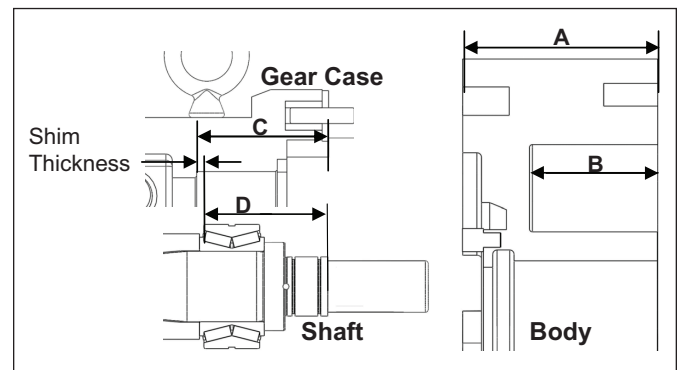

Figure 51. Calculating Shims
3. Shims located on the shaft behind the front bearing control the backface clearance of the pump; the space between the body and the rotor. If neither the shafts or bearings are being replaced, use the shims (if properly marked) removed at disassembly and reuse making sure they are installed in the correct bores. If replacing shafts or bearings, a process of calculating the required shims is necessary. Use *Figure 51* and the following equation to calculate. To find the correct backface clearance see *Table 10, page 41*.